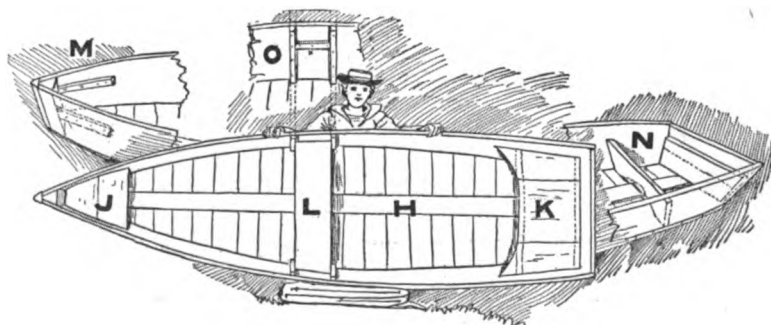

Fig. 133.—Details of bow, stern, seats, and finished boat.
consist of a triangular one at the bow (J), the oarsman's seat (L), and the stern seat (K, Fig. 133). The bow seat is made of 1-inch boards nailed to two cleats shown at M (Fig. 133). N shows the bench for the stern seat and O explains the arrange-
ment of the oarsman's seat a little forward amidships. As may be seen, it rests upon the cleats α (Diagram O, Fig. 133), which are fitted between two upright cleats on each side of the boat; this makes a seat which will not slip out of place, and the cleats serve to strengthen the sides of the otherwise ribless boat. Make the cleats of 1 by 2-inch lumber and let the seat be about 12 inches wide. The stern seat may be wider, $1\frac{1}{2}$ feet at K and 4 or 5 inches more at the long sides of the two boards each side of K (Fig. 133). Of course, it is not necessary to fit a board
in against the stern-piece, for a cleat will answer the purpose, but a good, heavy stern-piece is often desirable and the board shown in diagram N (Fig. 133) will serve to add strength to the stern as well as to furnish a firm rest for the stern seat, but it will also add weight.
is an advisable addition to the boat, but may also be omitted without serious results (H, Fig. 133).